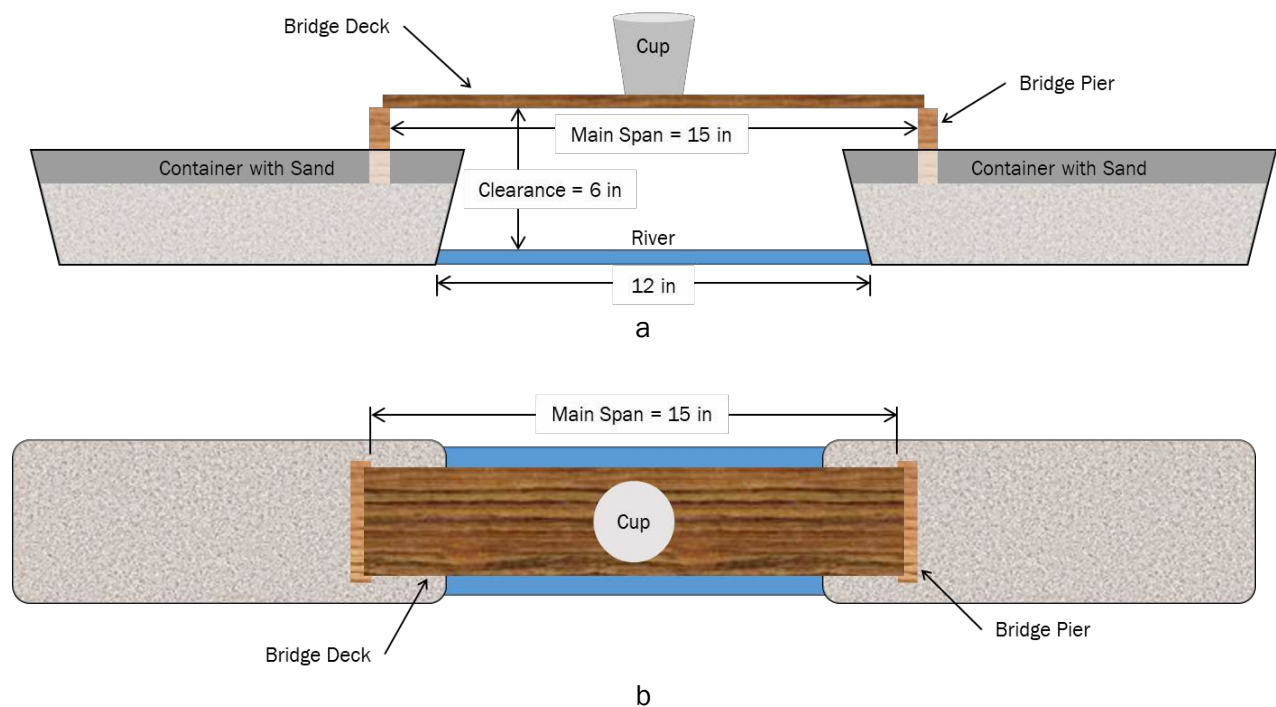

Figure 1. Sketch of bridge construction set-up (a) elevation view and (b) top view
1. Space two containers of sand apart using a wooden blue spacer representing a river as shown in Figure 1.